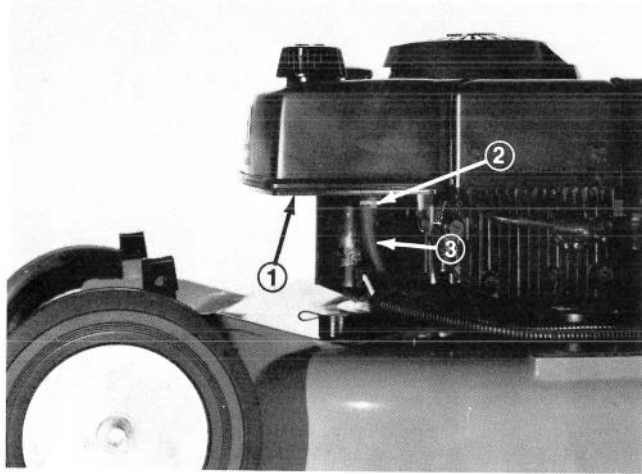

Figure 34
1. Compress clip holding fuel line on fuel tank fitting (Fig. 34). Slide clip down fuel line.